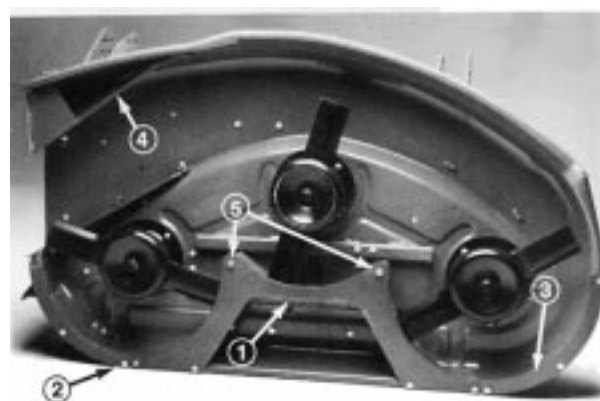

Figure 8
10. Position and secure center ring baffle to deck bosses with (2) 1/4 x 3/4" (19 mm) self-tapping screws and 1/4" (6 mm) washers (Fig. 8).
11. Using center ring baffle as a template, mark and drill (4) 9/32" (7 mm) diameter holes thru center of curved edge of deck (Fig. 8).
12. Secure center ring baffle to deck with (4) 1/4 x 3/4" (19 mm) capscrews and 1/4" nuts.
13. Loosely mount right ring baffle to rear baffle with (2) 5/16 x 5/8" (16 mm) carriage bolts and 5/16" lock nuts (Fig. 8).
14. Align right ring baffle with end of center baffle and edge of deck. Mark and drill (2) 9/32" (7 mm) diameter holes in curved edge of deck (Fig. 8).
15. Secure right baffle to deck with (2) 1/4 x 3/4" (19 mm) capscrews and nuts. Remove carriage bolt securing right baffle to deflector mounting hole. Tighten all previously installed fasteners.
16. Align left ring baffle with end of center baffle and edge of deck. Mark and drill (3) 9/32 in. (7 mm) diameter holes thru center of curved edge of deck. Secure with (3) 1/4 x 3/4 (19 mm) capscrews and nuts (Fig. 8).